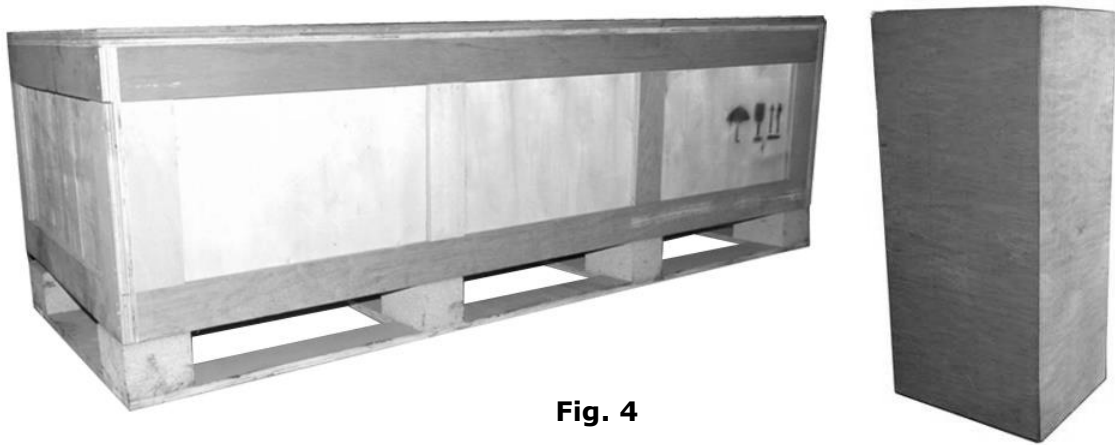

Fig. 4
1. Packaged lift, Parts box, Control cabinet and tubing cover plate (**See Fig. 4**).